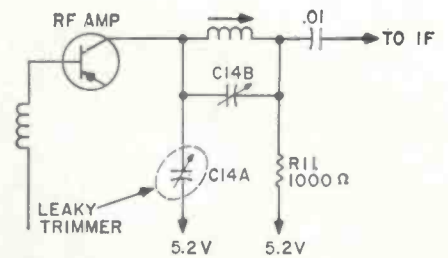

Fig. 2—Dashed circle encloses leaky trimmer section in a Volkswagen auto radio which caused noisy reception.
**Noisy Volkswagen.** A Bendix model 6BVT Volkswagen, solid-state radio came into the shop with noisy reception. The noise was traced to the first RF assembly. C14A (Fig. 2) proved to be leaking. When it was checked with an ohmmeter, however, no leakage resistance could be measured. The top end of the capacitor was unsoldered and a VTVM reading showed 0.45v leakage. After replacing C14A and B trimmer assembly, the radio was quiet.